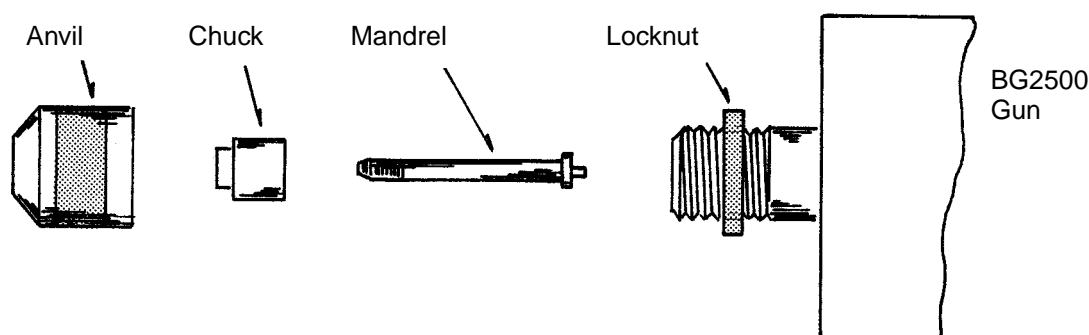

Figure 6 - Assembly of Installation Tooling to BG2500 Gun
- Step 1. Assemble the appropriate mandrel, chuck and anvil, selected from Table 4 for the size of blind nut to be installed, onto the BG2500 gun as shown in Figure 6.